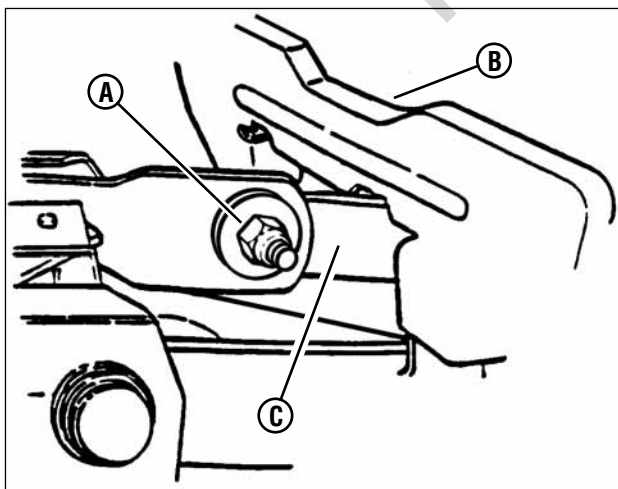

Figure 33: Adjusting deck levelness (side-to-side)
6. Loosen the hardware (**A, Figure 33**) that retains the left side of the blade pedal (**B**).